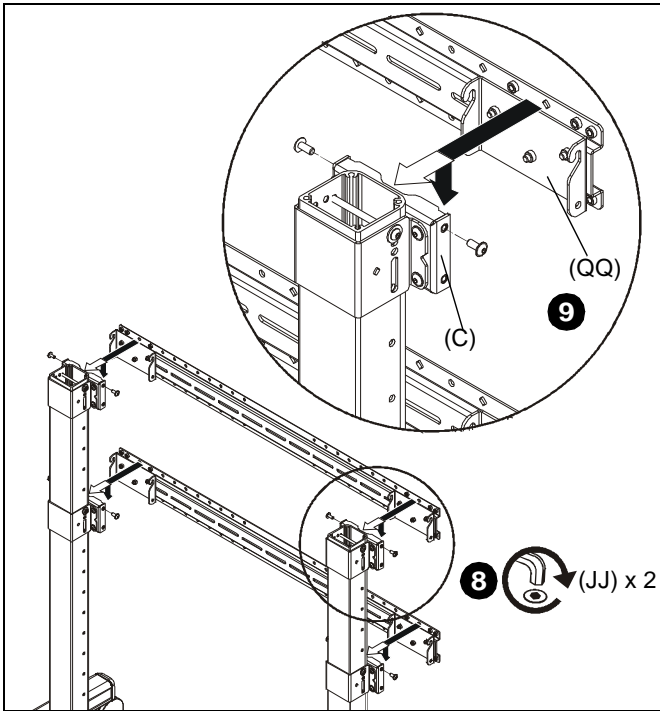

Figure 7
- Loosely install two 5/16-18 x 3/4" button head flange screws (JJ) into the top holes on each quick connect base (C). (See Figure 7)
- Hang quick connect brackets (QQ) onto screws installed in previous step. (See Figure 7)